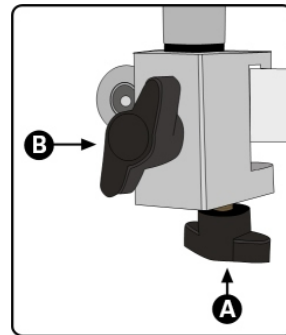

Figure 195: Support Arm Base Screws
2. Turn the lower screw (A in Figure 195) to fasten the Support Arm to the roll stand.
**CAUTION** *The side screw (B in Figure 195) fastens the Support Arm to its base. Do not open this screw.*